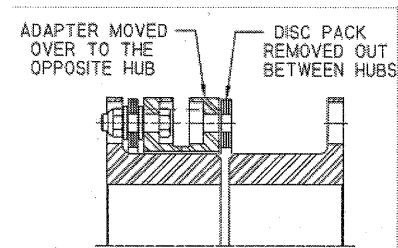

Figure 5
- C. Slide the adapter axially out of the way letting it rest on the other end hub. See Figure 5.
- D. The disc pack is now free to be removed through the axial gap between the two hubs ("C" dimension spacing), see Figure 5. If there is not enough room between the hubs for the total disc pack, the disc pack may be taken out and replaced one disc at a time provided the orientation is maintained on reassembly.